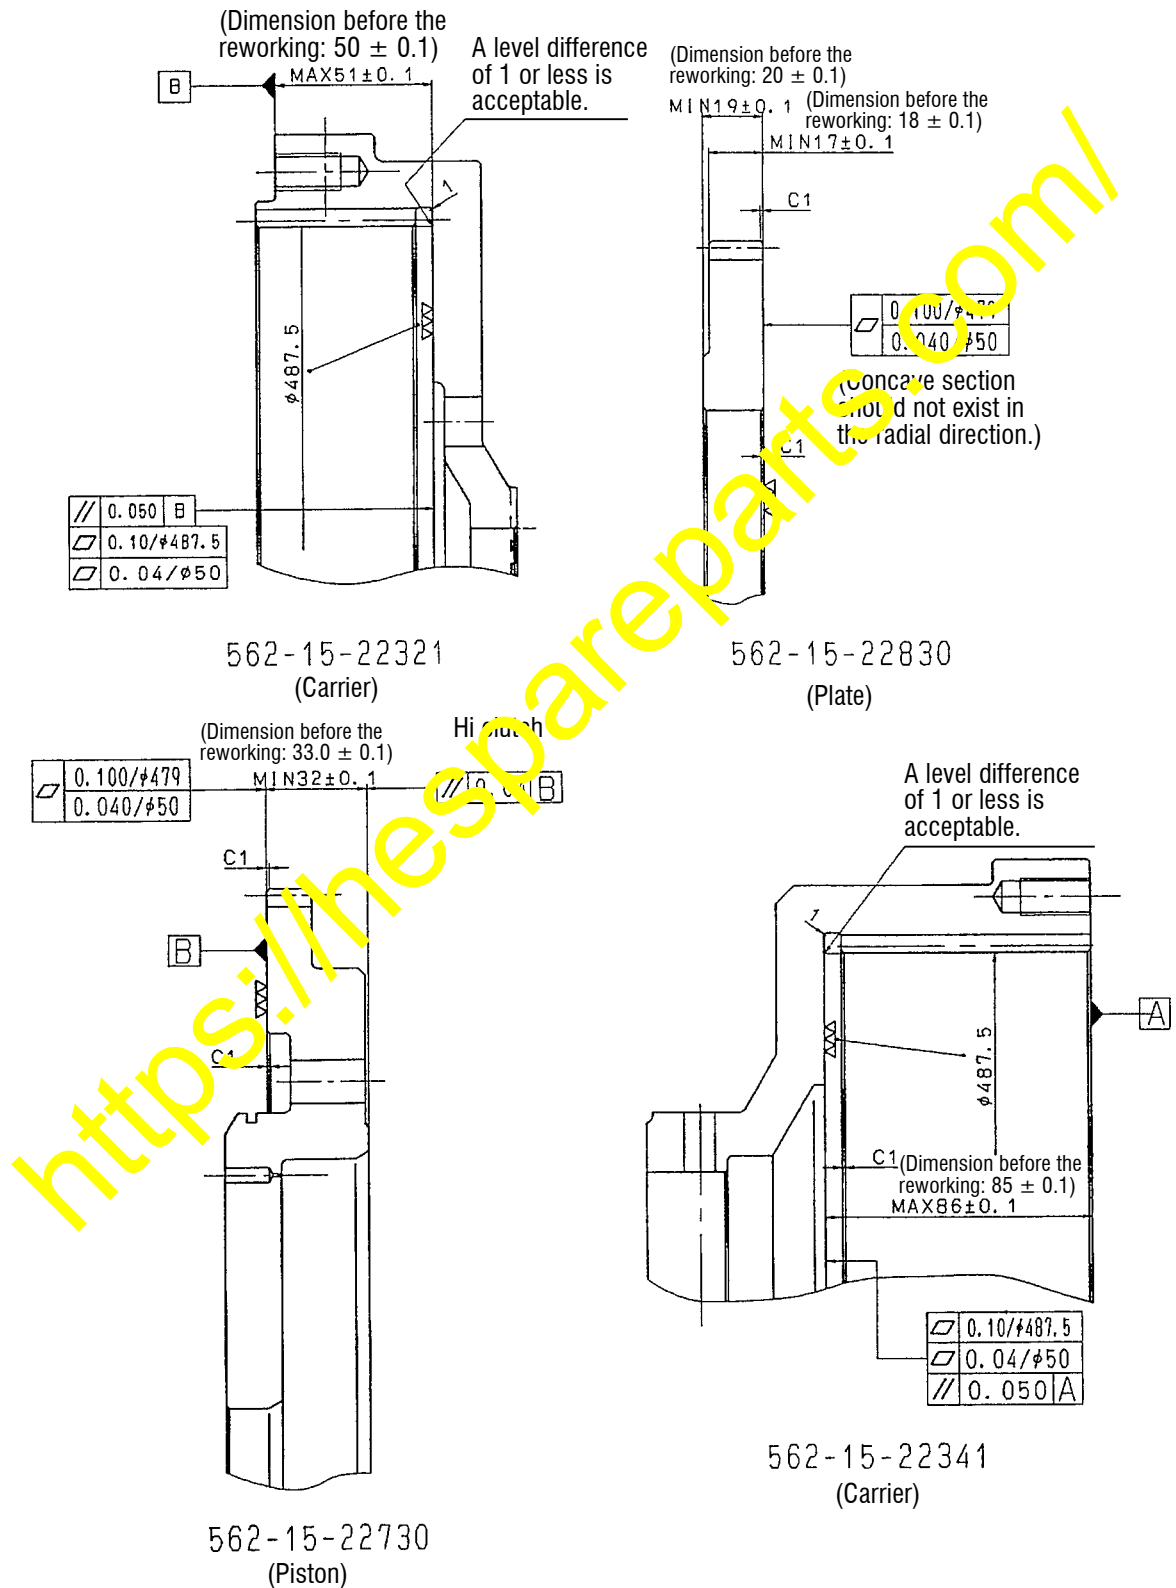

Fig. 7-1. Detailed reworking drawing for the carrier, piston and plate
- (1) As per the instructions given in Fig. 7-1 shown below, carry out reworking to machine the wave spring sliding surface on the carrier (562-15-22321 and 562-15-22341), piston (562-15-22730), plate (562-15-22830) until the stepped-type wear sections are removed.